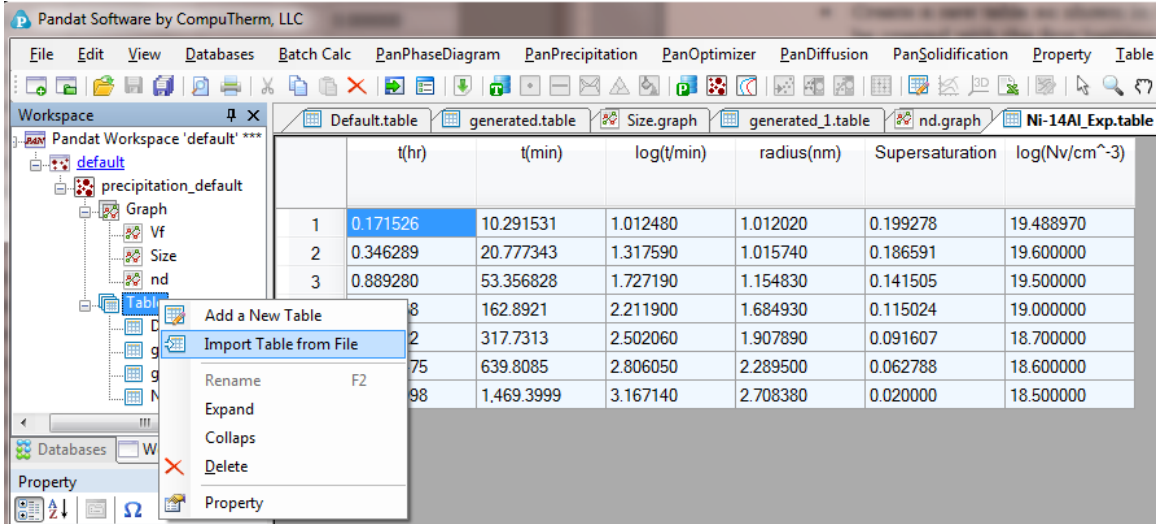

Figure 3.1.6: Import an experimental data table from a file
- Import a table from a file as shown in Figure 3.1.6, and select Ni-14Al_Exp.dat;